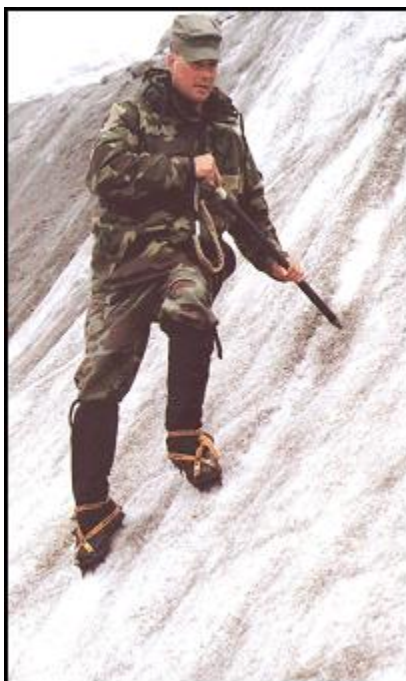

Figure 10-3. Ice ax in the cross body or port arms position.
(2) **Cross Body Position or Port Arms Position.** On steeper slopes the ax can be used in the port arms position, or cross body position (Figure 10-3). It is carried across the chest, upslope hand on the shaft, and spike towards the slope. The head of the ax is held away from the slope with the pick to the rear in preparation for self-arrest. Ensure the leash is connected to the upslope hand, which allows the ax to be used in the hammer position on the upslope side of the climber. The spike, in this case, is used as an aid for maintaining balance.